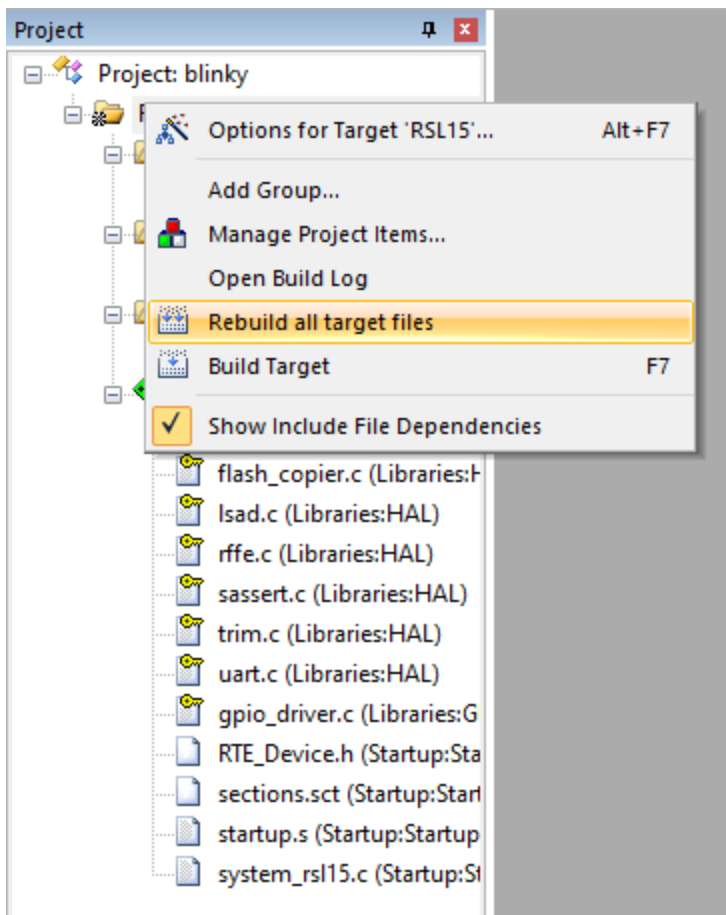

Figure 27. Starting to Build a Project in the Keil μ Vision IDE
1. Right click on **RSL15** and choose **Rebuild all target files**. Alternatively, you can use the icon shown in the "Starting to Build a Project in the Keil μ Vision IDE" figure (Figure 27).